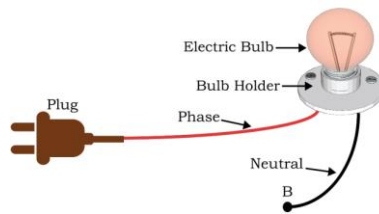

Fig. 2.12 Electric plug is connected to a phase wire
Step 2. Connect the terminal of one wire to the plug. Figure 2.12 illustrate that phase wire is connected with a plug.
Take a battery of 9V, a fixed resistor of 3 ohms, and a bulb or LED of 5 watts to connect them as per the circuit diagram shown in Figure 2.12. Find out the voltage, current, resistance, and power in a given circuit.